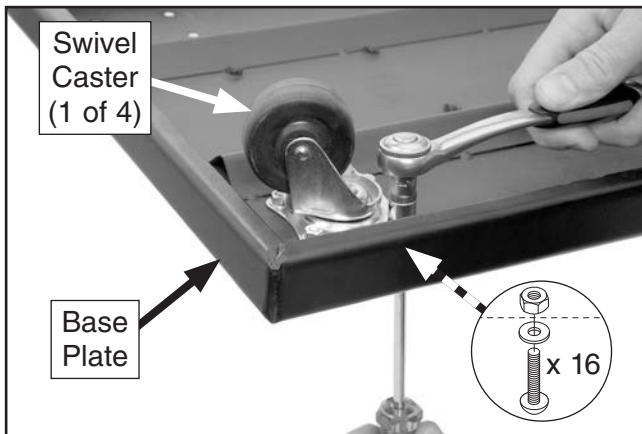

Figure 6. Attaching swivel casters to base plate.
1. Attach (4) swivel casters to base plate with (16) M5-.8 x 10 Phillips head screws, 5mm flat washers, and M5-.8 hex nuts (see **Figure 6**).